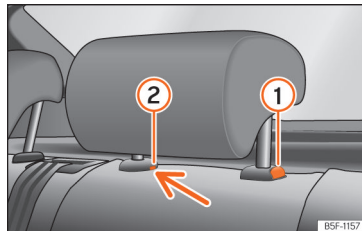

Fig. 69 Rear head restraint: removal.
- Press button >>> Fig. 69 ①, while simultaneously pressing on the safety hole ② with a flat screwdriver a maximum of 5 mm wide, and remove the headrest.